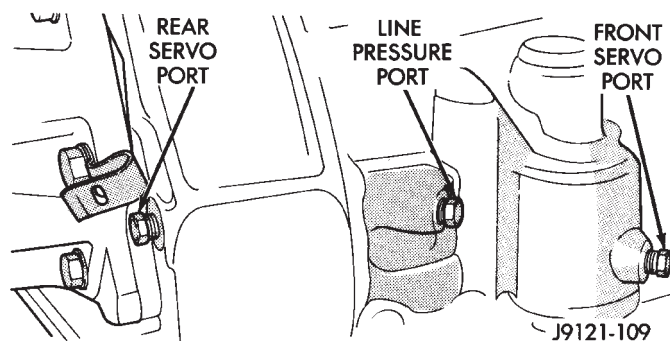
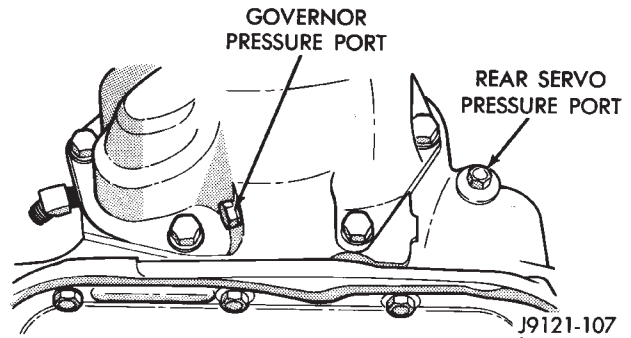
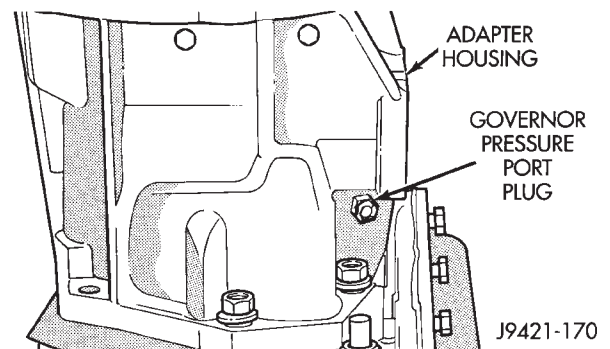

Fig. 6 Pressure Test Ports At Side Of Case
Fig. 7 Pressure Test Ports At Rear Of Case—2WD
Fig. 8 Pressure Test Ports At Rear Of Case—4WD
Pressure test ports locations are provided at the accumulator, front servo, and rear servo, governor passage, and overdrive clutch pressure passage (Fig. 6), (Fig. 7) and (Fig. 8).
- (1) Connect 100 psi Gauge C-3292 to accumulator port.
- (2) Connect 300 psi Gauge C-3293-SP to rear servo port (Fig. 6) and (Fig. 7).
- (3) Disconnect throttle and gearshift rods from manual and throttle levers.
- (4) Start and run engine at 1000 rpm.
- (5) Move shift lever (on manual lever shaft) all the way forward into 1 range.
- (6) Move transmission throttle lever from full forward to full rearward position and note pressures on both gauges.
- (7) Line pressure at accumulator port should be 54-60 psi (372-414 kPa) with throttle lever forward and gradually increase to 90-96 psi (621-662 kPa) as lever is moved rearward.
- (8) Rear servo pressure should be same as line pressure within 3 psi (20.68 kPa).
- (1) Connect test gauge to accumulator pressure port (Fig. 6) and (Fig. 7).
- (1) Connect test gauges to accumulator and front servo ports (Fig. 6) and (Fig. 7). Use either test gauge at the two ports.
- (2) Start and run engine at 1600 rpm for this test.
- (3) Move selector lever to D range. This is two detents rearward from full forward position.
- (4) Read pressures on both gauges as transmission throttle lever is moved from full forward to full rearward position.
- (5) Line pressure should be 54-60 psi (372-414 kPa) with throttle lever forward and gradually increase as lever is moved rearward.
- (6) Front servo is pressurized only in D range and should be same as line pressure within 3 psi (21 kPa) up to downshift point.
- (1) Connect 300 psi gauge to rear servo port (Fig. 6) and (Fig. 7).
- (2) Start and run engine at 1600 rpm for test.
- (3) Move valve body selector lever four detents rearward from the full forward position. This is Reverse range.
- (4) Move throttle lever all way forward then all way rearward and note gauge readings.
- (5) Pressure should be 145 - 175 psi (1000-1207 kPa) with lever forward and increase to 230 - 280 psi (1586-1931 kPa) as lever is moved rearward.
- (1) Connect 100 psi Test Gauge C-3292 to governor pressure port (Fig. 6) and (Fig. 7).
- (2) Move shift lever to D range.
- (3) Start and run engine at curb idle speed and note pressure. At idle and with vehicle stopped, pressure should be zero to 1.5 psi maximum. If pressure exceeds this figure, governor valve or weights are sticking open.
- (4) Slowly increase engine speed and observe speedometer and pressure test gauge. Governor pressure should increase in proportion to vehicle speed.
- (5) Pressure rise should be smooth and drop back to 0 to 1.5 psi when wheels stop rotating.